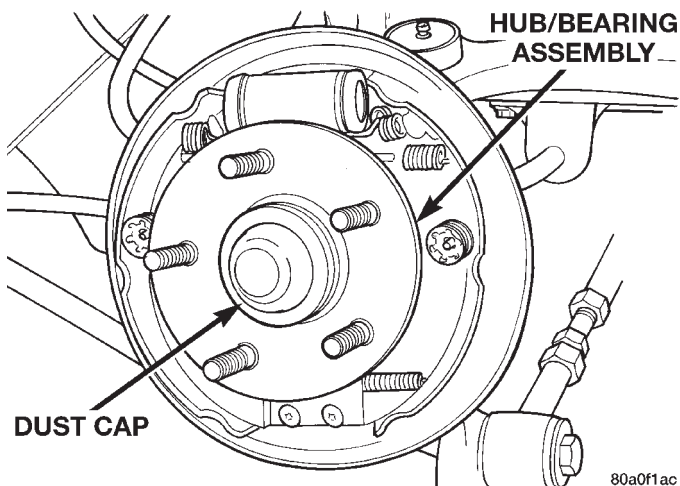

**Fig. 79 Rear Hub/Bearing Dust Cap**
(5) Remove dust cap (Fig. 79) from rear hub/bearing assembly.
(2) Install hub/bearing assembly dust cap, (Fig. 79) using a soft faced hammer.